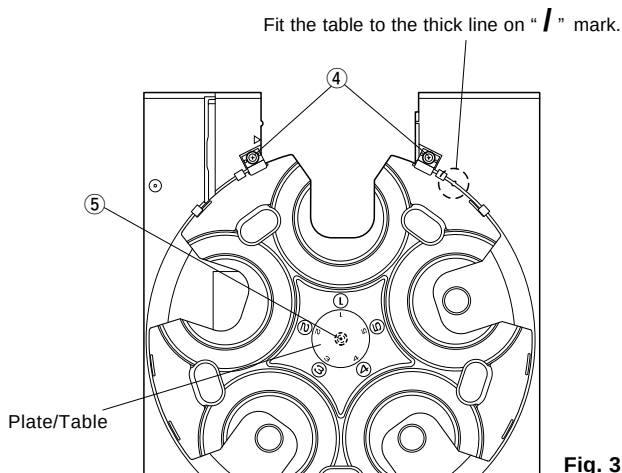

Fig. 3
- a. Remove 2 screws (④) and then remove the Roller Ass'y in Fig. 3.
b. Remove the Plate/Table in Fig. 3.
c. Remove 1 screw (⑤) and then take off the Table in Fig. 3.
- 3) Install the Table by aligning it to the thick line on "I" mark. (Fig.3)